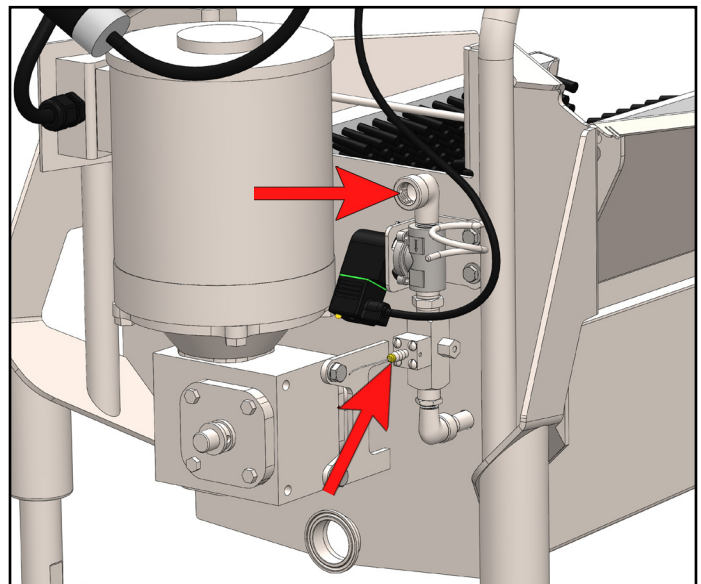

Fig. 5.2: Water and Venturi Injector (solution) inlets
1. Connect water source to solenoid valve fitting inlet (located under control box). Fitting is 3/8" [Figure 5.2].
2. Connect the solution source to the hose barb of the Venturi Injector (located under water inlet) using 1/4" PVC tubing [Figure 5.2].